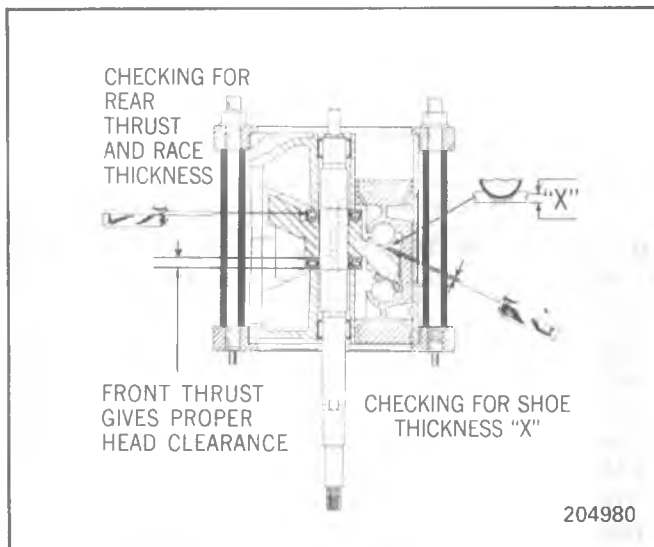

Fig. 1D-44 Checking A-6 Piston and Shaft End Play
Fifteen (15) thrust races are provided in increments of .01mm (.0005") (one-half thousandths) thickness and one ZERO gage thickness, providing a total of 16 sizes available for field service. The thrust race "number" also corresponds to the last three digits of the piece part number. See Thrust Race Size Chart in Fig. 1D-41.
The Teflon piston ring installing, sizing and gaging tools are shown in Fig. 1D-45.
3. Set the piston on-end on a clean, flat surface and install the Ring Installer Guide J 24608-2 on the end of the piston (Fig. 1D-46).
4. Install a Teflon ring on the Ring Installer Guide J 24605-2 as shown in Fig. 1D-47, with the dished or dull-side down and glossy-side up.
5. Push the Ring Installer J 24608-5 down over the Installer Guide J 24608-2 to install the Teflon ring in the piston ring groove (Fig. 1D-47). If the Teflon ring is slightly off position in the ring groove, it can be positioned into place by fingernail or blunt-edged tool that will not damage the piston.
6. Lubricate the piston ring area with 525 viscosity refrigerant oil and rotate the Piston and Ring Assembly into the Ring Sizer J 24608-6 at a slight angle (Fig. 1D-48). Rotate the piston, while pushing inward, until the piston is inserted against the center stop of the Ring Sizer J 23608-6.
7. Rotate the Piston and Ring Assembly in the Ring Sizer J 24608-6 several complete turns, until the Assembly rotates relatively free in the Ring Sizer (Fig. 1D-48).
8. Remove the Piston and Ring Assembly, wipe the end of the piston and ring area with a clean cloth and then push the Piston and Ring Assembly into the Ring Gage J 24608-1 (Fig. 1D-49). The piston should go through the Ring Gage with a 2 to 8 lb. force or less without lubrication. If not, repeat Steps 6 and 7.
9. Repeat the procedure for the opposite end of the piston (Fig. 1D-50).